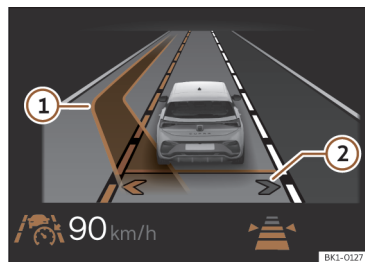

Fig. 139 On the instrument cluster screen: lane change assist display (schematic representation).
Lane change assist is activated. The arrows of your own lane on the instrument cluster display are grey >>> **Fig. 139 ②**
If the system detects no objects in the detection field of the sensor system and an assisted lane change to an adjacent lane is possible, the corresponding lane is shown in the instrument cluster display next to the driver's own lane. The arrow on the corresponding side of the lane is displayed in white >>> **Fig. 139 ②**.